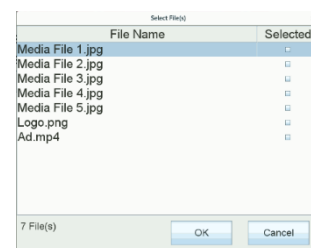

Figure 38: Uploading a Media File
**Note:** Either pictures or video files can be used as media content, however uploading both images and video files in the T-POS Terminal will result in a split mode advertisement, displaying the pictures on the right side and the video on the bottom of the secondary screen. See Figure 38.